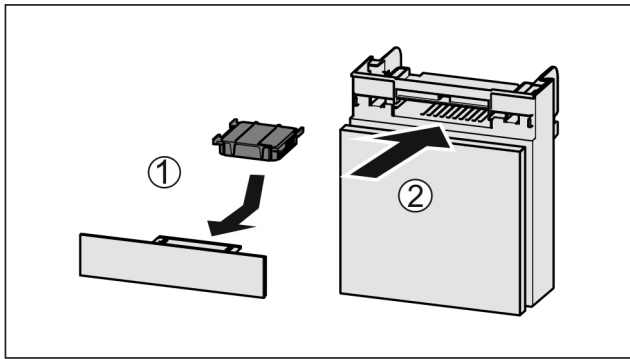

Fig. 171
- ▶ Insert the carbon filter as shown in the diagram Fig. 171 (1).
- ▶ Push the compartment in Fig. 171 (2).